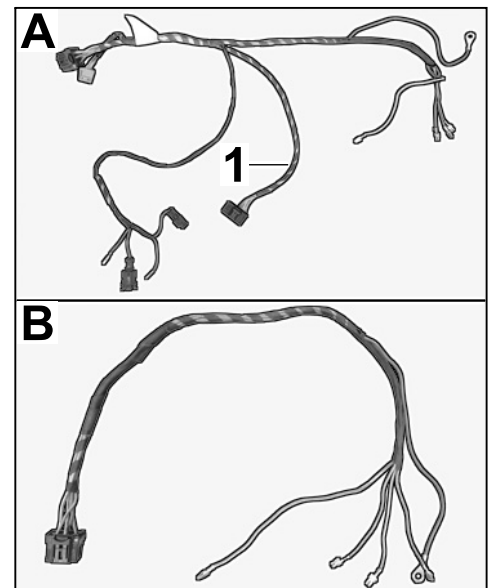

Figure 6
2.3.1 Complete wire harness USA version (⇒ *Figure 6 -B-*).